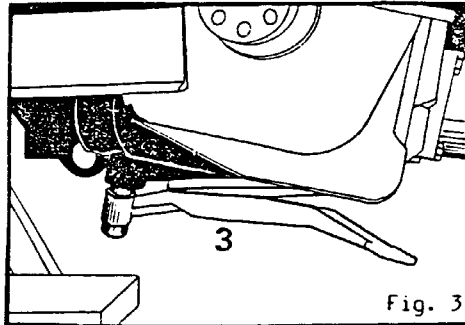

Fig. 3
5. STOP the concrete pump, then open the clean out door (figure 3). DO NOT OPEN THE CLEAN OUT DOOR WHILE THE CONCRETE PUMP IS ENGAGED!